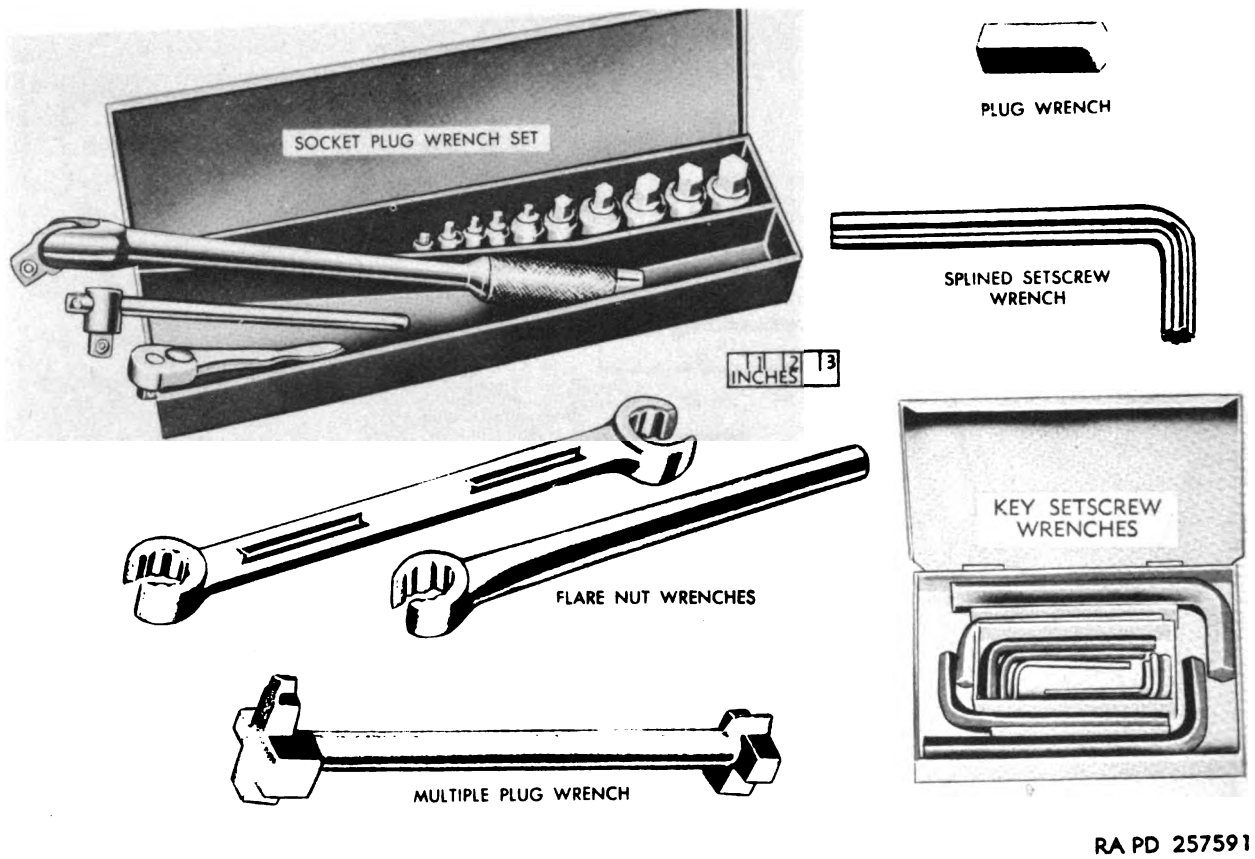

Figure 121. Setscrew, plug, and flare nut wrenches.
- (7) *Setscrew and hollow-head capscrew wrenches.* Most setscrews and hollow-head capscrews have a hexagon (six-sided) socket. The commonly known key (Allen) wrench (fig. 121) is L-shaped, made of tool steel having
a hexagonal or square section to fit these screws. Splined setscrew wrenches (fig. 121) are made of round stock with ends to fit little flutes or splines in headless setscrews. A hollow-head capscrew set is also supplied. This set has detachable sockets which are used with the accompanying handles.
- (8) *Plug wrenches.* A plug wrench (fig. 121) is a straight bar having a hexagon or square shape and is available in a range of sizes from $\frac{3}{8}$ to 1 inch in width. They are usually 2 inches long. Plug wrenches are also made to fit drain plugs of transmissions, differentials, and all types of gear cases. The multiple plug wrench shown in figure 121 is a combination type,
having several different size and shape ends. Most plug wrenches are made for a specific size plug. There are single-end plug wrenches that range in size from $\frac{3}{16}$ to $\frac{11}{16}$ inch with a hexagonal or square end. Double-end plug wrenches with square ends are issued for $\frac{3}{8}$ - and $\frac{1}{2}$ -inch plugs and $\frac{3}{8}$ - and $\frac{3}{4}$ -inch plugs. These wrenches are normally 8 to 12 inches long. Socket plug wrenches (fig. 121) have a $\frac{1}{2}$ -inch square drive to be used with socket wrench handles.
- (9) *Flare nut wrenches.* A flare nut wrench (fig. 121) is a notched thin-walled split box wrench especially designed to fit over nuts in very close places. It is ideal for tightening brass tube flare nuts. It grips the nut